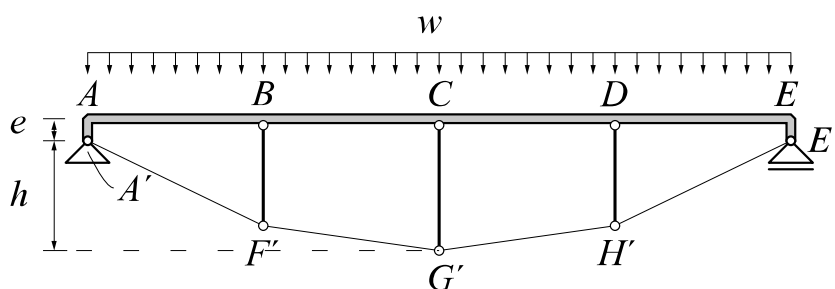

Fig. 2
- (1) Answer if this structure is statically determinate or indeterminate and answer the degree of indeterminacy if it is statically indeterminate. Also, describe the reason.
- (2) Answer the following questions when a uniformly distributed vertical load of w per unit length is applied to beam AE , and the compression forces of struts BF , CG , and DH are all $\frac{1}{4}w\ell$.
- (d) Refer to Fig. 2. Consider repositioning the joints between the cables and the beam at A and E below the centroid of the beam section by e (to A' and E' respectively), and accordingly repositioning points F , G , and H downward by e (to F' , G' , and H' , respectively). Find e that minimizes the maximum bending moment. Assume the compression forces of struts are all kept $\frac{1}{4}w\ell$.